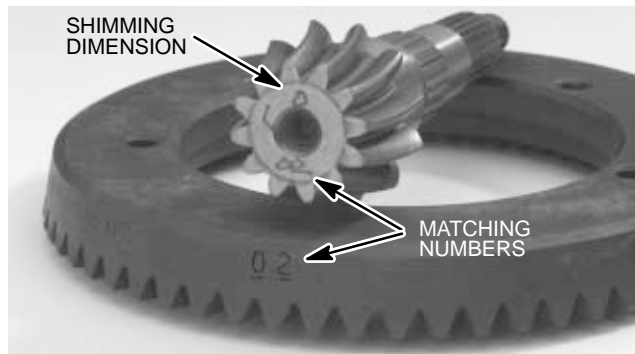

Figure 43
The ring gear (32) and pinion gear (8) are supplied as a matched set. Both gears are etched for verification with matching numbers. If a new gear set is being used, verify that the matching numbers are the same on both the ring and pinion gear before assembling the front differential (Fig. 43).
On the end of each pinion gear, there is an etched number indicated by plus (+), minus (-), or zero (0). This number indicates a shimming dimension for the best running position of the gear set. This dimension is controlled by shimming between the the bearing cup (10) and the carrier assembly (15) (Fig. 43).
D. Note shimming dimension on the pinion gear (Fig. 43). If the dimension is (+) positive, add the dimension to 3.750 inch. If the dimension is (-) negative, subtract the dimension from 3.750 inch.
**IMPORTANT:** The pinion gear (8) and ring gear (32) are supplied only as a matched set. Matching numbers on both gears are etched for verification. When using a new gear set, make sure the matching numbers are verified before using (Fig. 43).